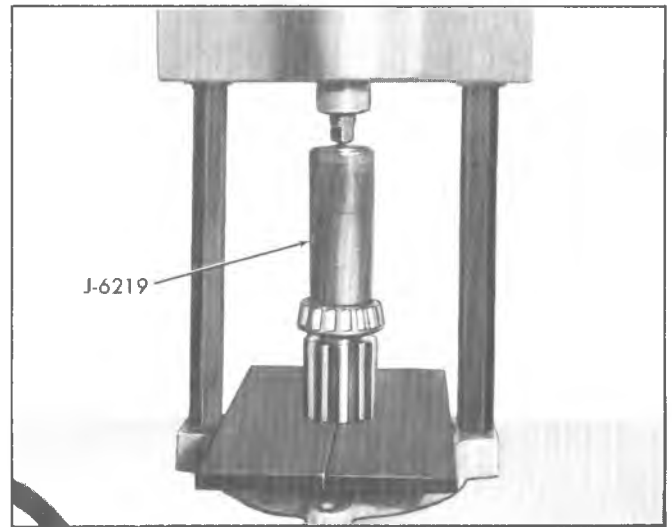

Fig. 13D--Installing Front Output Shaft Rear Bearing
7. Support front output shaft and press rear bearing onto shaft using Tool J-6219 as shown in Figure 13D.